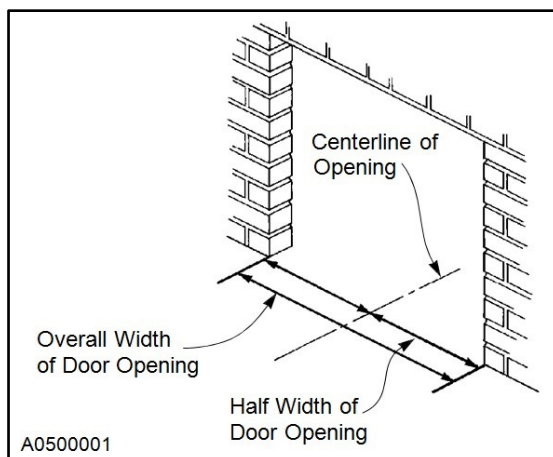

Figure 12
1. Measure the width of the door opening. Then divide the measurement in half to locate the centerline. Mark the centerline along the floor. (See Figure 12)